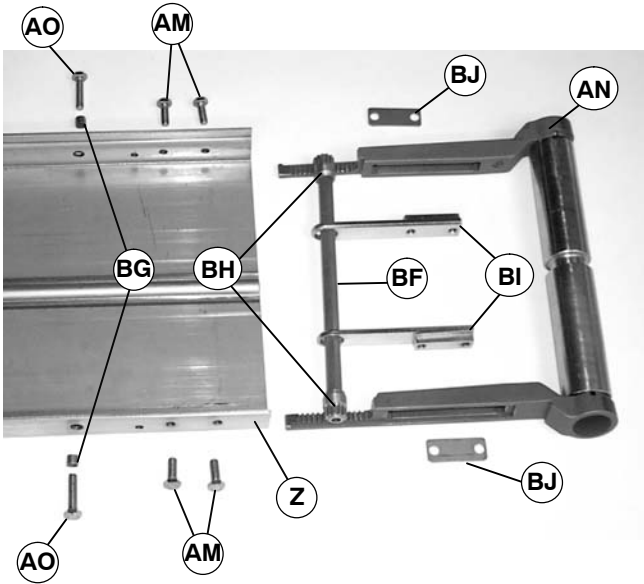

Figure 33
4. Remove two M6 hex head cap screws (AM) from each side of conveyor.
5. Remove two pinion ends (BH of Figure 33), clamp blocks (BI), hex pinion (BF), two spacers (BJ) and tail assembly (AN) from conveyor (Z).
**IMPORTANT:** Loosely install two spacers (BJ of Figures 33 and 41) and four screws (AM) prior to installing idler tail assembly (AN) on conveyor.